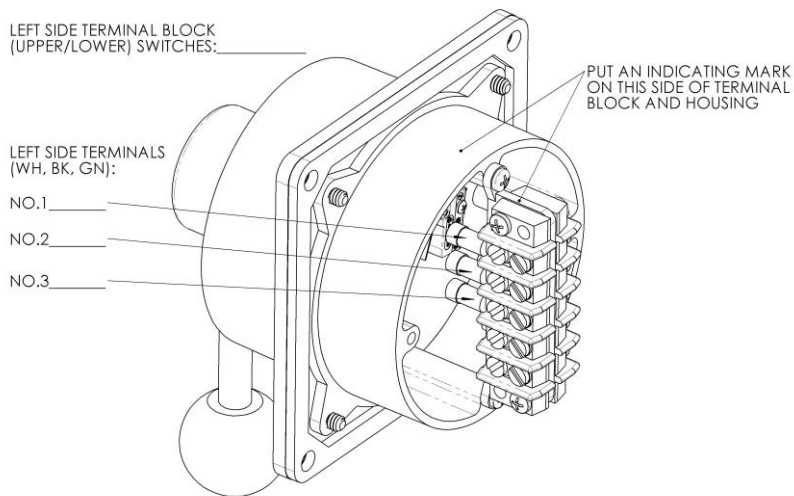
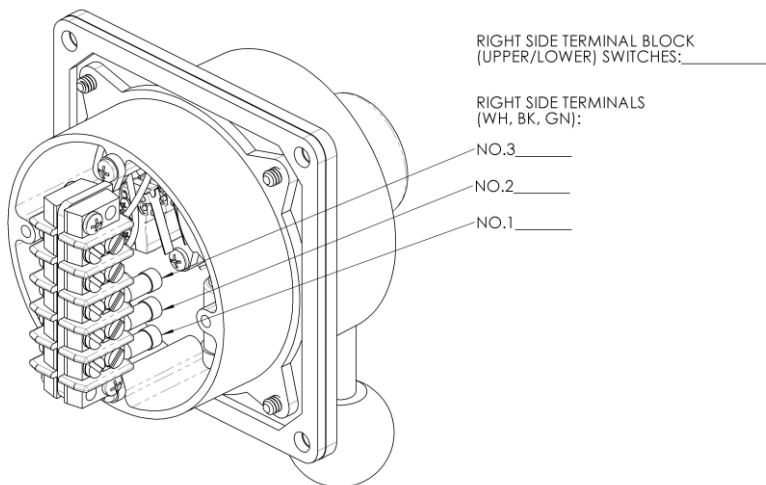

Figure 18: Dual jog left side terminal connections.
Figure 19: Dual jog right side terminal connections
- c. Refer to Figure 18 and Figure 19; Fill out the side of the terminal block which the upper and lower switches are routed to.
- d. Refer to Figure 18 and Figure 19; Fill out the colour of wire to each of the terminal block positions.
- e. Refer to Figure 18; Use a marking material such as a paint marker to put an indicating mark on the terminal block and housing to ensure terminal block is reinstalled in the same orientation.
21. Reconnect all the switch wires to the terminal block, refer to Figure 18 and Figure 19 for which wires go to which terminal positions. It is important that the same microswitch (Upper/lower/left/right) goes to the same terminal block number as before. The colors of the of the microswitch wires may not necessarily the same as before.